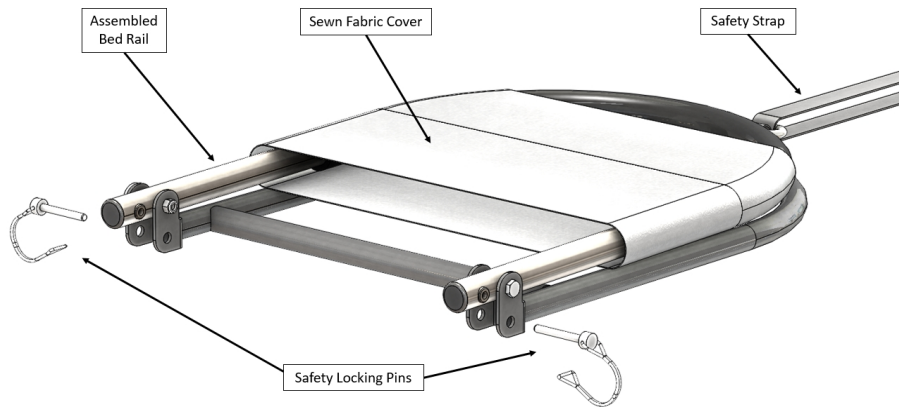

Figure 1
1. Remove all parts from the box and become familiar with the parts. Remove Safety Locking Pins as shown in Figure 1.